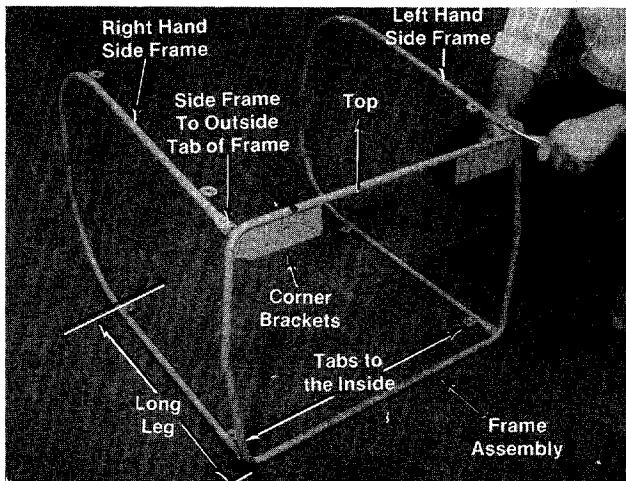

FIGURE 8.
1. Place the frame assembly with corner brackets up as shown in figure 8.
2. Fasten the right and left hand frame sides to frame with four hex bolts (I) and hex locknuts (D) provided. See figure 8. Tighten nuts and bolts with 7/16" wrenches.
Right and left hand side frames are determined by the long leg of side frame to the bottom and tabs to the inside. Also when assembling side frames to frame, the side frames are to the outside of frame assembly tabs. See figure 8.